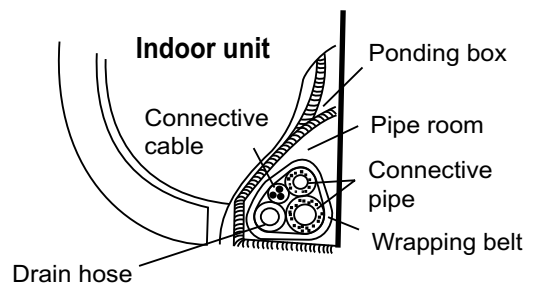

Fig. 11
Bundle the tubing, connecting cable, and drain hose with tape securely, evenly as shown in Fig. 11.
- e. Regulate the panel in the direction of the arrow in Fig.11 slightly to fit the panel's center to the center of the ceiling's opening. Guarantee that hooks of four corners are fixed well.